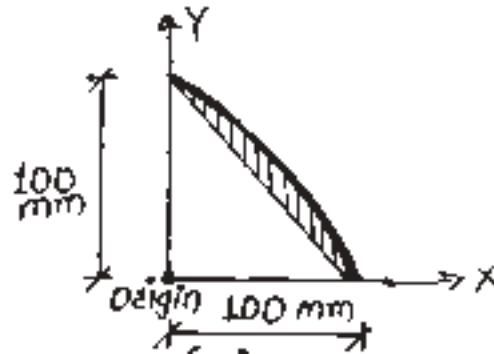

Fig. No. 9
- b) Locate the centroid of shaded area as shown in Fig. No. 9 with respect to origin.